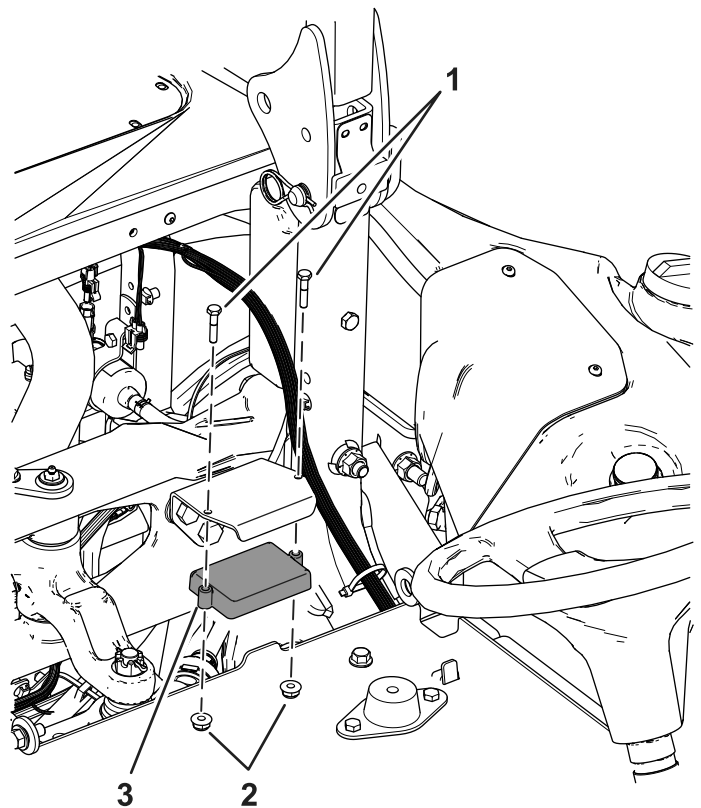

Figure 4
5. Install the sensor to the sensor bracket with 2 bolts (1/4 x 1-1/4 inch) and 2 nuts (1/4 inch); refer to Figure 4.